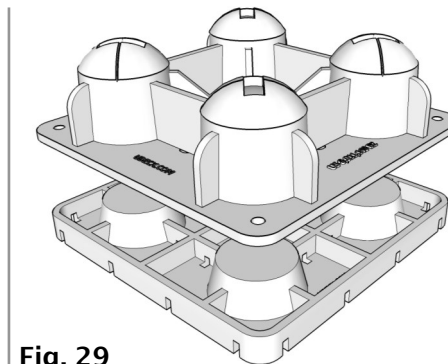
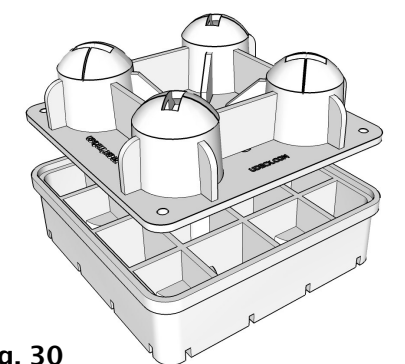

Fig. 29
Fig. 30
- 13.** If you choose to install on a sloped or uneven grade, 1" Shims (G) (Fig. 29) or 3" Risers (H) (Fig. 30) can be used to elevate portions of your Patio Deck to help level the finished surface. Simply place a shim below the Pier (A), level and begin installation with Steps 4 through 8 of this manual.